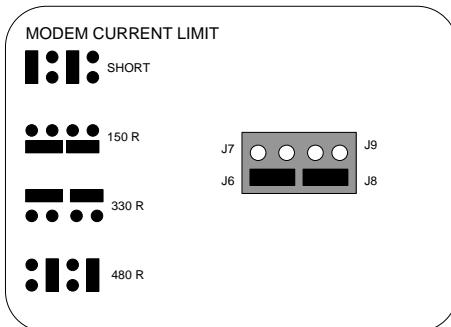

Figure 65: LIC Current Limit Jumper Setting
- If the carrier signal is dropping, or if the modem frequently gives a **No Carrier** message, try a different current limiting setting on the LIC (Figure 65). **Default should be set to 150 ohms.**